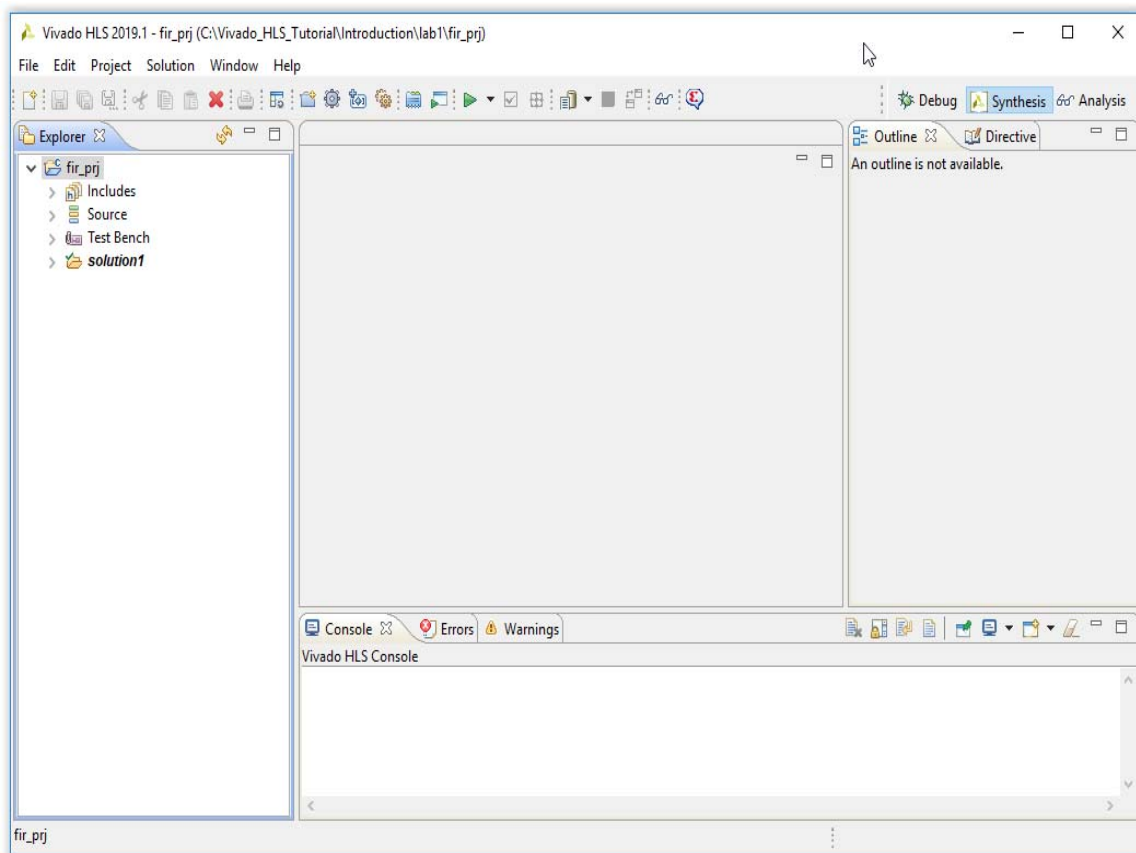

Figure 2-7: Vivado HLS Project
12. Click **Finish** to open the Vivado HLS project, as shown in Figure 2-7.